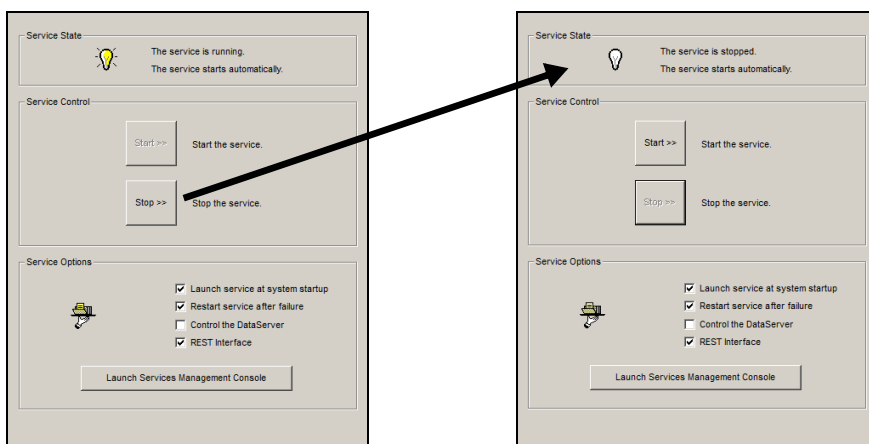

Figure 15-2. Use the **STOP** button to manually halt the operation of the XMS service
2. Press the **STOP** button in the Service Control section of the page (figure 15-2).